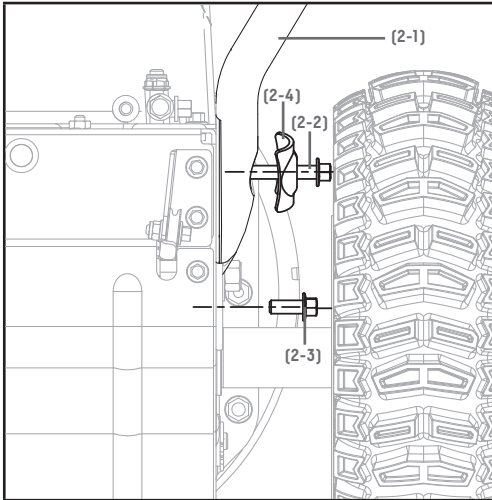

Figure 3
1. Attach the lower handle (2-1) onto the unit body with bolts (2-2, 2-3) and washers (2-4) (Fig. 3). Repeat on the other side.